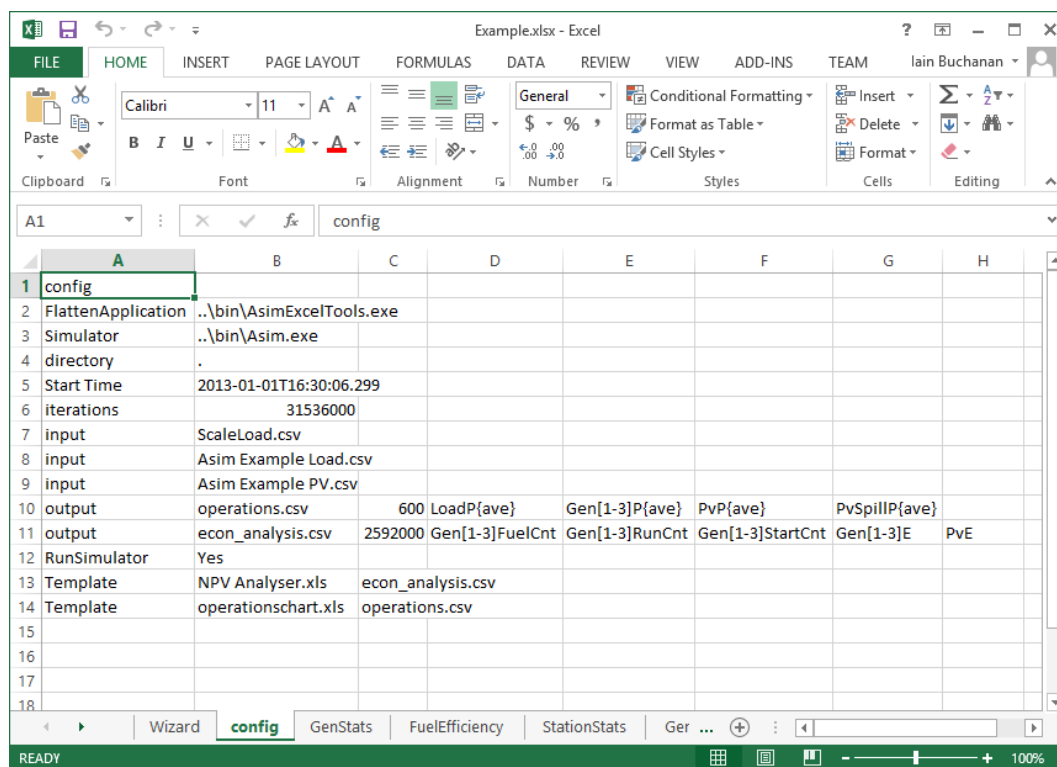

Figure 28 Config tab after templates have been entered
8. The config tab is now complete and should look similar to Figure 28